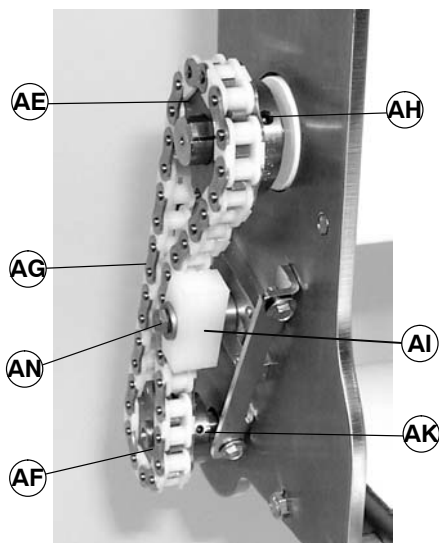

Figure 24
2. Loosen timing chain tensioner screw (AN of Figure 24).
NOTE: Make sure center of timing chain (AG of Figure 24) aligns with center of chain tensioner (AI). If necessary, move drive sprocket (AE) in or out. Tighten set screws (AH). Also, if necessary, move driven sprocket (AF) in or out. Tighten set screws (AK).